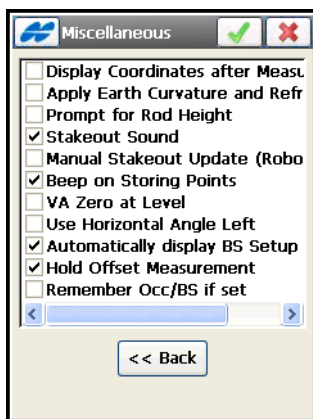

Figure 4-82. Miscellaneous
14. Select additional customizing parameters in the *Miscellaneous* screen (Figure 4-82).